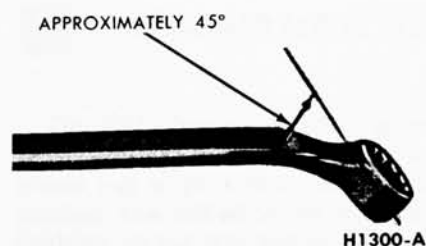

FIG. 4—Brake Bleeder Wrench
1. Position a specially formed 3/8-inch box wrench on the bleeder fitting on the right rear brake wheel cylinder (Fig. 4). Attach a rubber drain tube to the bleeder fitting. The end of the tube should fit snugly around the bleeder fitting.
3. Position a 3/8-inch box wrench on the bleeder fitting on the right rear brake wheel cylinder (Fig. 4). Attach a rubber drain tube to the bleeder fitting. The end of the tube should fit snugly around the bleeder fitting.